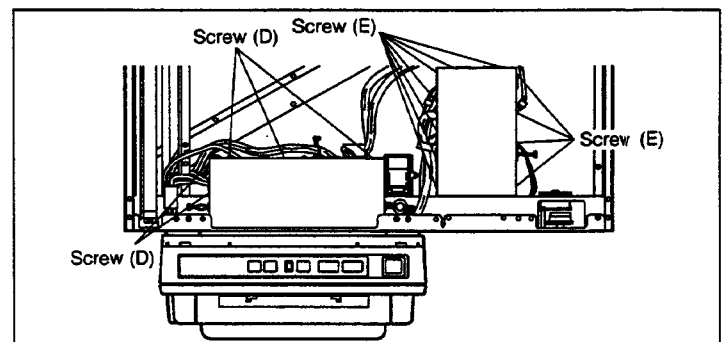

Fig. 5-6
- 5) Remove 5 screws (D), as shown in Fig 5-6, and remove the POWER Board cover.
- 6) Remove 11 screws (E), as shown in Fig 5-6, and remove the CONTROL Board cover.